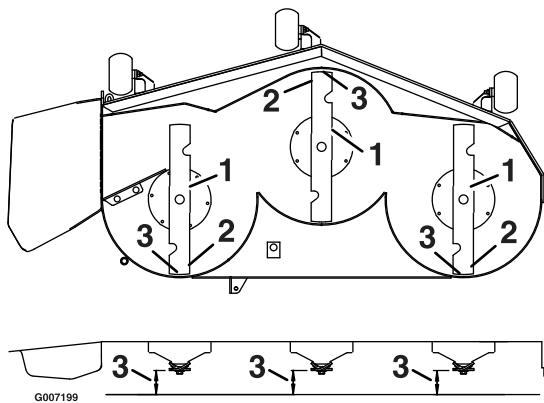

Figure 46
- Carefully rotate the blades so they are facing front to rear (Figure 46).
- Measure from the tip of the front blade to the flat surface and the tip of the rear blade to the flat surface (Figure 46). If the front blade tip is not 1/16-5/16 inch (1.6-7.9 mm) lower than the rear blade tip, adjust the front deck hanger.